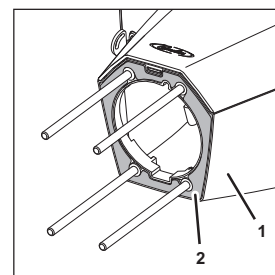

Fig. 4
2. Position the flat seal (Fig. 4/2) on the stand (Fig. 4/1) of the unit.